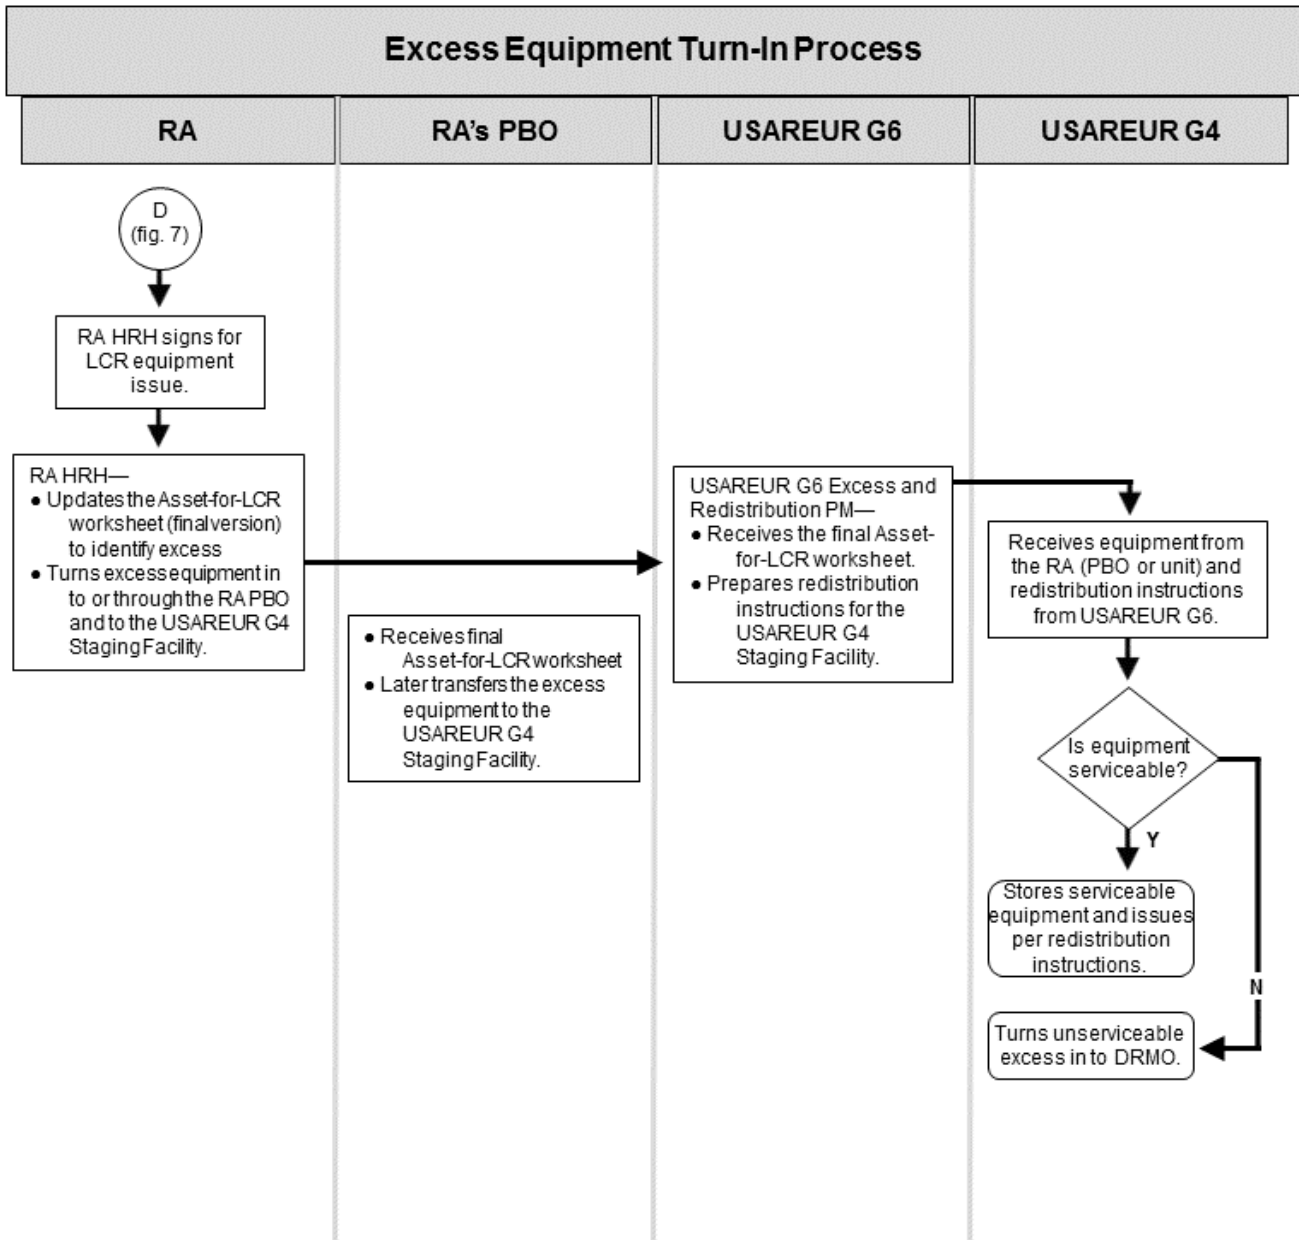

Figure 8. Excess Equipment Turn-In Process
(1) Within 60 days after the unit PBO receives LCR items, HRHs must coordinate with their IMOs and PBOs to turn in the items identified on the previously submitted Asset-for-PCR worksheet.
(2) All unclassified (that is, NIPRNET-connected) notebook and desktop computers and MFPs must be turned in to USAREUR G4 Staging Facility.
(3) After the USAREUR G6 provides excess redistribution instructions, the USAREUR G4 Staging Facility will prepare any remaining (nonredistributed) equipment for disposition through the Defense Reutilization and Marketing Office (DRMO). Figure 8 shows the excess-equipment reporting and turn-in process and subparagraphs b through g below provide details about the process and list responsibilities.